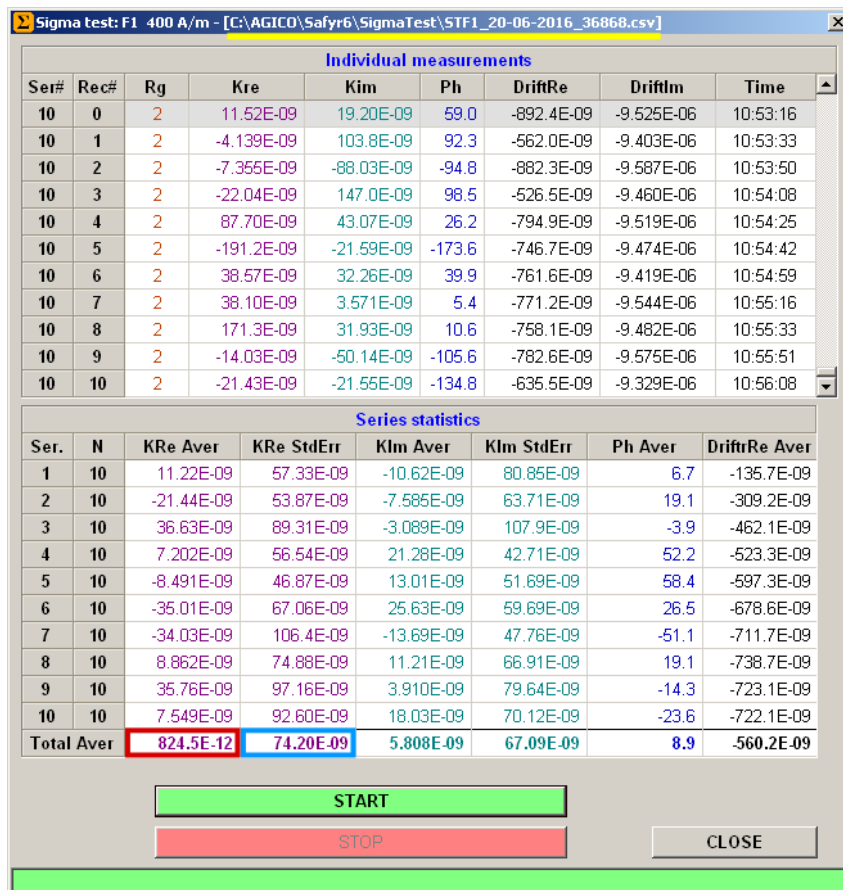

Figure 4: Sigma Test window with results
- Results of Sigma Test are shown on Fig.4. **KRe Aver** represents the mean value of susceptibility calculated from the sets of measurements. Total average of in-phase (real) susceptibility value is marked by the red rectangle - value is close to the zero. **KRe StdErr** represents Standard deviation of in-phase susceptibility estimated from entire routine and it is marked by the blue rectangle. To consider Sigma Test as successful value must be lower than 20×10^{-9} SI.
- Results of Sigma Test are automatically saved to the *.csv datafile. Path of this file is C:\AGICO\SAFYR7\SigmaTest. Name of the file is derived from actual date and time. Actual path and name of datafile is shown in the header of Sigma Test window (marked by the yellow line in Fig.4).